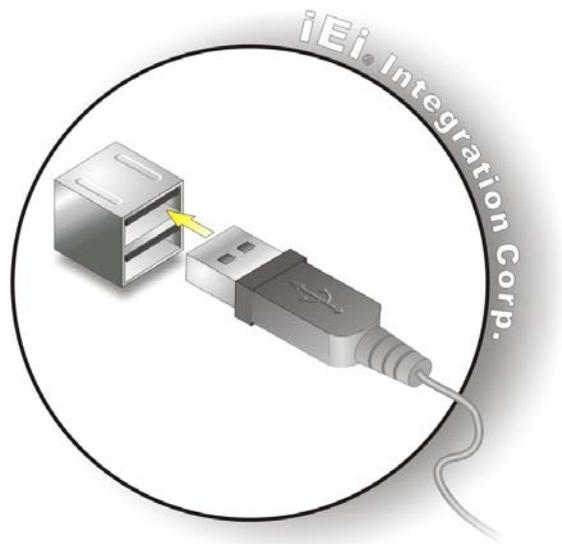

Figure 4-24: USB Connector
Step 2: Insert a USB 2.0/3.0 plug. Insert the USB 2.0/3.0 plug of a device into the USB 2.0/3.0 on the external peripheral interface. See **Figure 4-24**.